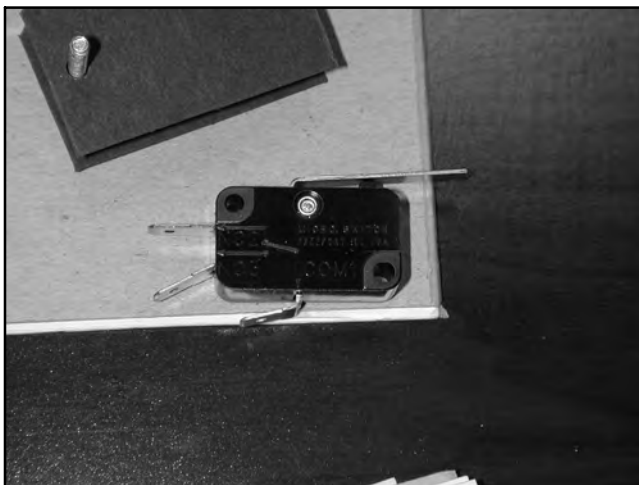

Figure 6-12 Microswitch
9. Remove the suspect microswitch. See Figure 6-12.